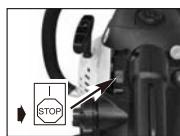

Fig. 9
2. Press STOP switch down to stop engine. (Figure 9)